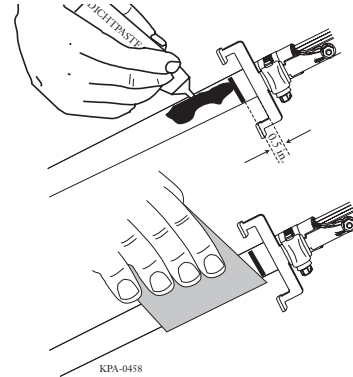

Figure 13 — Apply Sealing Paste
- Step 2** Beginning at the mark shown in Figure 13, use wax-paper backing from the sealing tape to spread the “dichtpaste” sealing paste evenly around the cable in the area where the sealing tape will be applied. Allow the sealing paste to dry.
- Step 4** Starting at the mark shown in Figure 13, wrap the tape around the cable until it fills the diameter “C” on the end cap gauge tool (Figure 15A). Express ports will accommodate cable with a maximum diameter of 25 mm (1.0 inch); some cables require only one wrap of sealing tape to reach this diameter. Always finish with a complete wrap that overlaps the starting point by approximately 0.5 inch (Figure 15B).